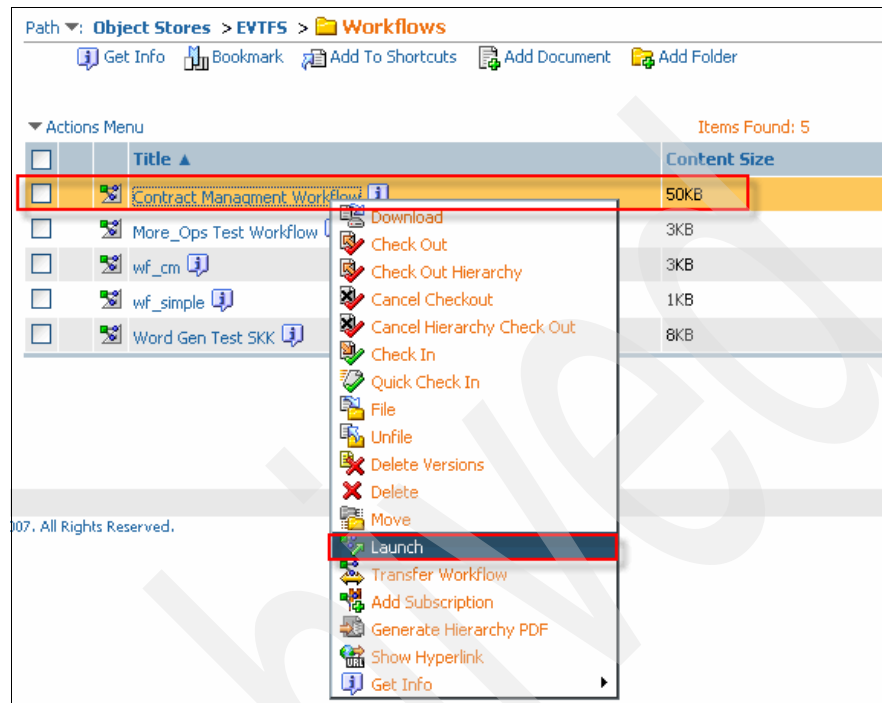

Figure 7-58 Selecting the Launch option
3. Right-click **Contract Management Workflow** and select **Launch** (Figure 7-58).